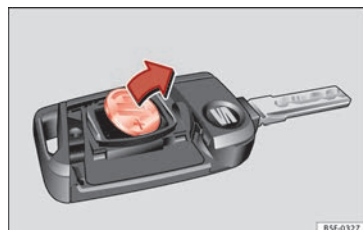

Fig. 133 Vehicle key: removing the battery
- Extract the battery from the compartment using a suitable thin object » Fig. 133.
- Place the new battery in the compartment as shown » Fig. 133, pressing in the opposite direction to that shown by the arrow » ❷.